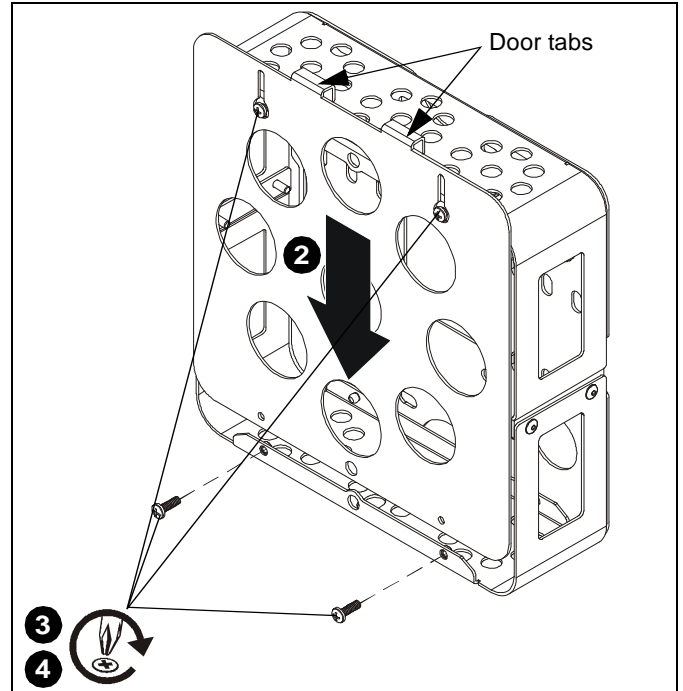

Figure 9
- Remove back cover from back of ceiling mount. (See Figure 9)
- Replace enclosure door on front of the FCA510/FCA515 by inserting door tabs into top of enclosure and lowering top of door over loosened Phillips screws. (See Figure 9)
- Install two Phillips screws removed in Step 1 through lower part of door and into the enclosure base. (See Figure 9)